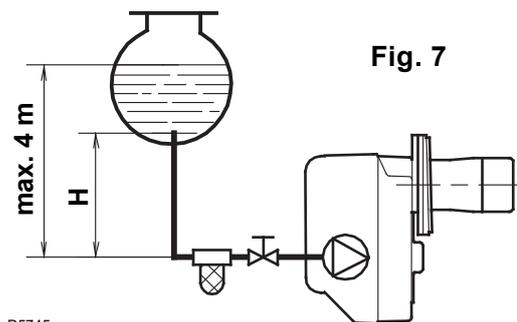
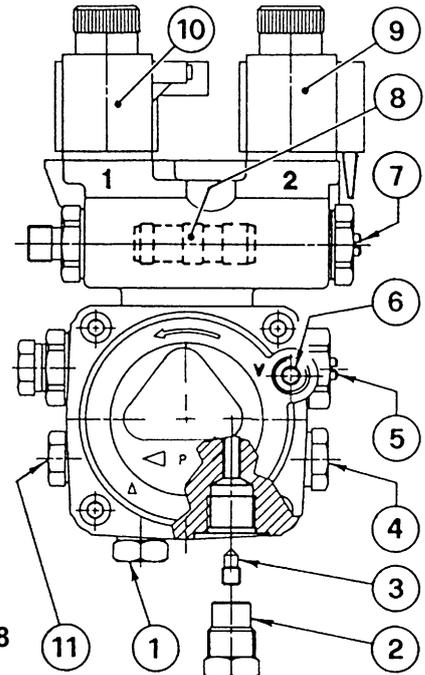

Fig. 7
Fig. 8
- The pump is designed to allow working with two pipes. In order to obtain one pipe working it is necessary to unscrew the return plug (2), remove the by-pass screw (3) and then screw again the plug (2), (see Fig. 8).
On the system in Fig. 7 it is sufficient to loosen the suction gauge connection (6, Fig. 8) and wait until oil flows out.